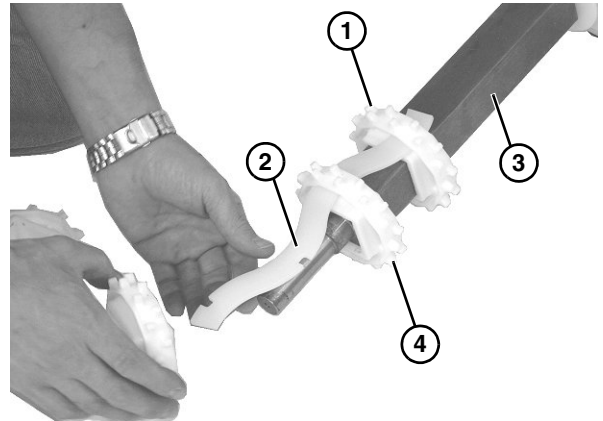

Figure 32
12. To assemble sprockets onto drive spindle, slide one sprocket (**Figure 32, item 1**) onto alignment bar (**Figure 32, item 2**) and slide assembly onto drive spindle (**Figure 32, item 3**).
13. Install second sprocket (**Figure 32, item 4**) and subsequent sprockets one by one, while sliding entire assembly onto alignment bar and spindle.